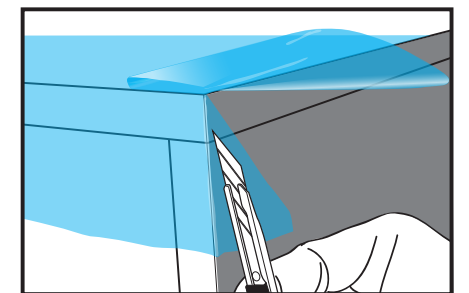

Figure 06
- ▶ Cut any excess material, leaving only approximately 1 mm to 2 mm (0.04 in. - 0.08 in.), (FIG. 06) then cover the adjacent edge.